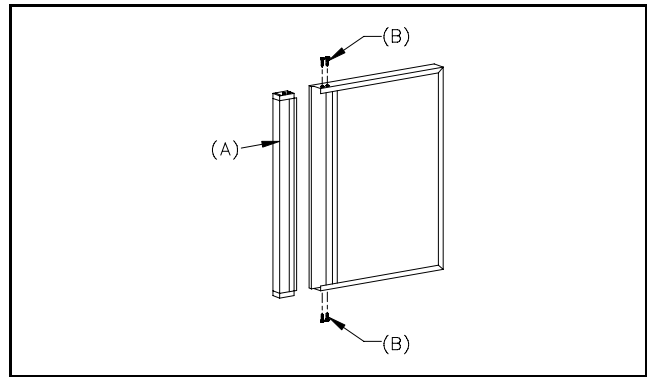

Figure 6
2. Refer to Figure 6. Remove handle assembly (A) by removing four screws (B).